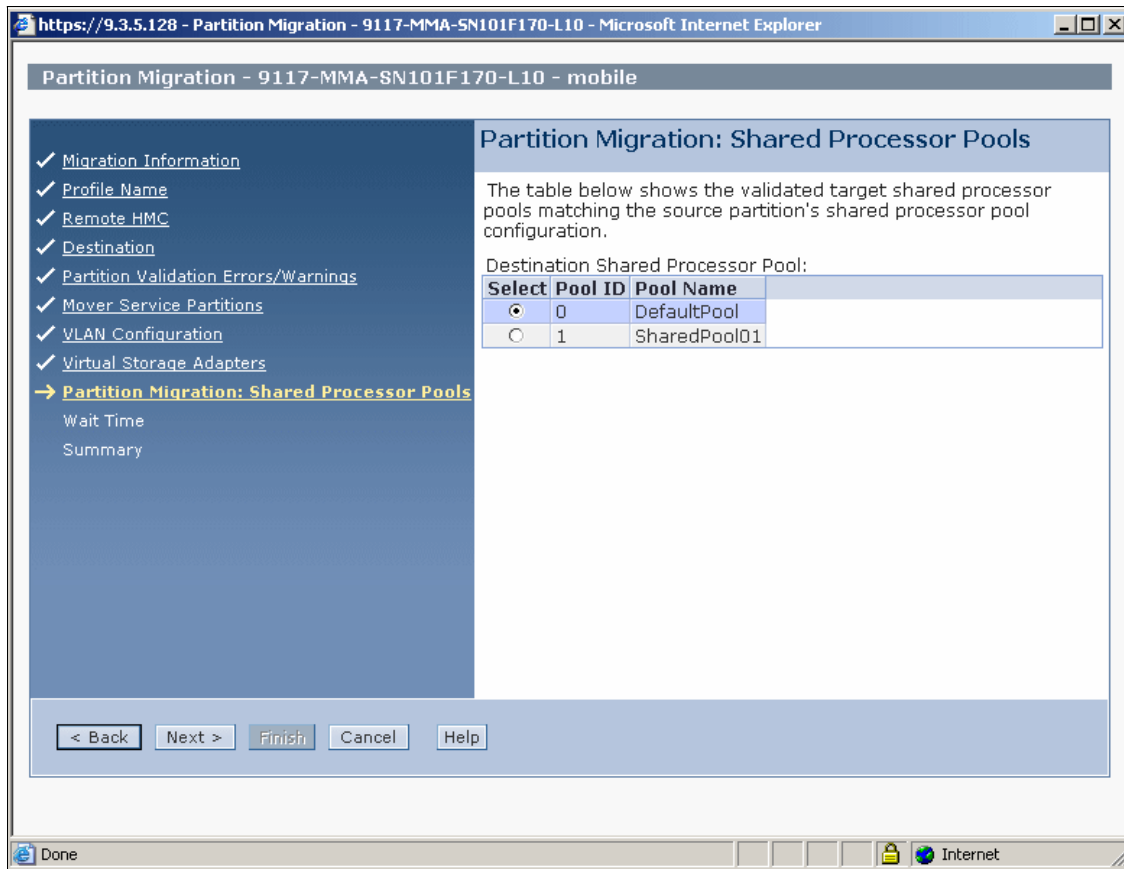

Figure 14-17 Specifying the shared processor pool
12. Select the destination shared processor pool from the list of shared processor pools that support the source partition's shared processor pool configuration as shown in Figure 14-17.